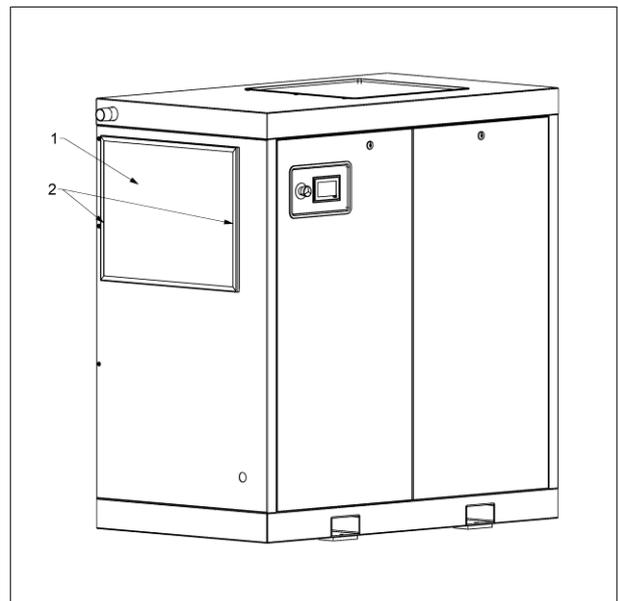

Fig. 24
- Take out the filter (-1- Fig. 24) and clean it. Clean the filter by brushing or washing
- Reinstall the filter and tuck edges under the brackets (-2- Fig. 24).